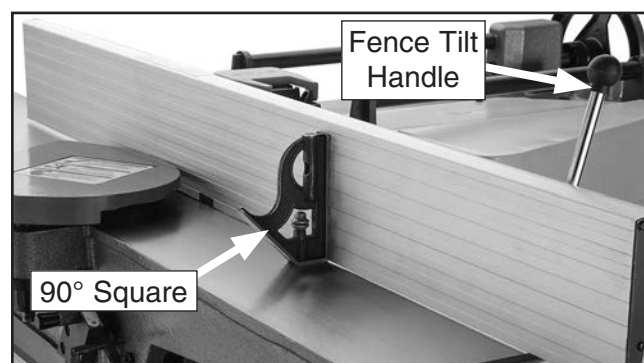

Figure 73. Fence adjusted to 90°.
2. Use fence tilt handle and a 90° square to adjust fence to 90° (see **Figure 73**).
3. Retighten fence-angle lock lever (see **Step 1**) and check angle indicator (see **Figure 73**) to verify setting.